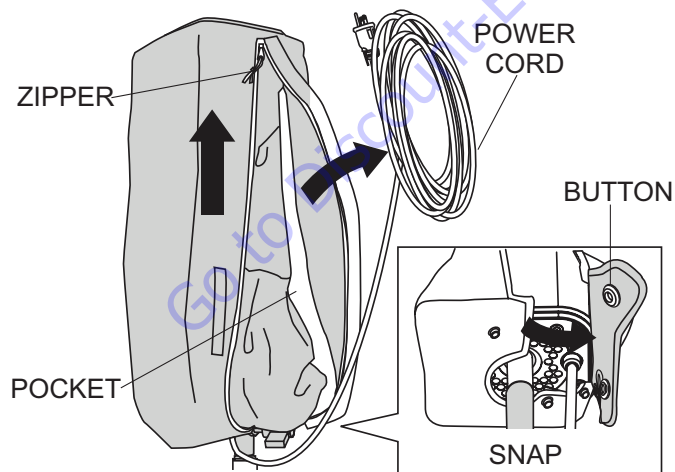

Figure 9. Removing Balloon/AC Power Cord
2. Unsnap the three buttons on the bottom of the balloon. Expose the balloon by pulling down on the velcro tab and unzip the protective cover as shown in Figure 9. Also remove the AC power cord at this time.